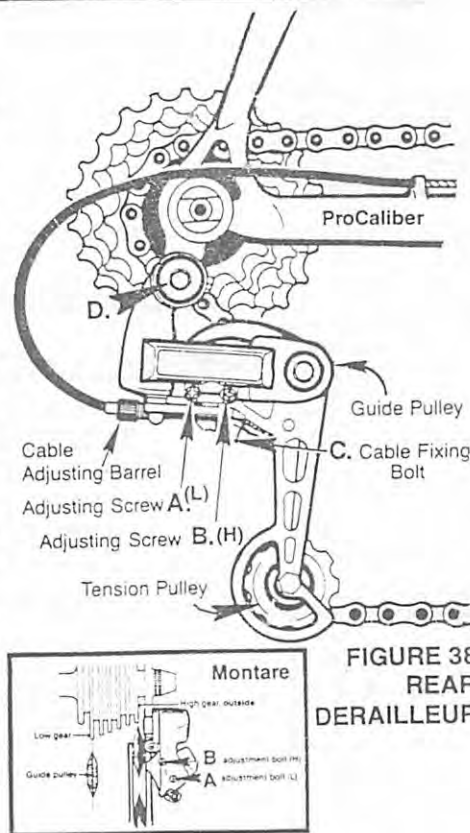

FIGURE 38
1. **Rear Derailleur limit adjustments:** In Fig. 38 arrow "A" adjuster limits left derailleur movement, to the big or low gear cog. Arrow "B" is the right limit adjustment, to the smallest or high gear cog. "C" shows location of cable fixing bolt. "D" shows derailleur mounting bolt on wheel dropout.
c. Then turn the low gear adjusting screw ("A" in Fig. 38) clockwise one full turn. Repeat the above procedure until the chain does not override the big cog. Note: Should the chain override the big freewheel cog and get caught between that cog and wheel spokes, spokes could be cut by the chain. You would then have a badly out-of-line wheel. That's one reason why it's important that you keep the derailleur properly adjusted.
d. If you can't shift all the way up to the large (low gear) freewheel cog, turn low gear adjuster screw one turn counterclockwise and check shifting. If chain won't move to the big cog, the cable has stretched. To remove cable slack, shift so the chain is on the smallest rear cog. Loosen the cable fixing bolt ("C" in Fig. 38) and pull excess cable through the derailleur. Hold the cable tightly so all slack is removed, retighten cable fixing bolt to 35-50 inch/pounds.
e. With the rear wheel off the ground, check the adjustment for high speed. Turn the pedals and shift down to the smallest rear cog. If the chain overrides that cog and jams between the small cog and the chainstay (see Fig. 1 for chainstay location), move the shift lever slightly toward the low gear position. Then put the chain back on the small cog and turn the high gear limit adjuster screw ("B" in Fig. 38) clockwise one turn. Repeat the shift check and high gear adjustment as above until the chain shifts smoothly and accurately onto the small rear cog.
f. If you can't shift down to the small rear cog, the cable is too tight. Simply loosen the cable fixing bolt ("C" in Fig. 38) with the chain on the next smallest gear. Let out about 1/8 inch of cable slack, retighten cable fixing bolt, check shifting and repeat until chain will move onto the small cog.